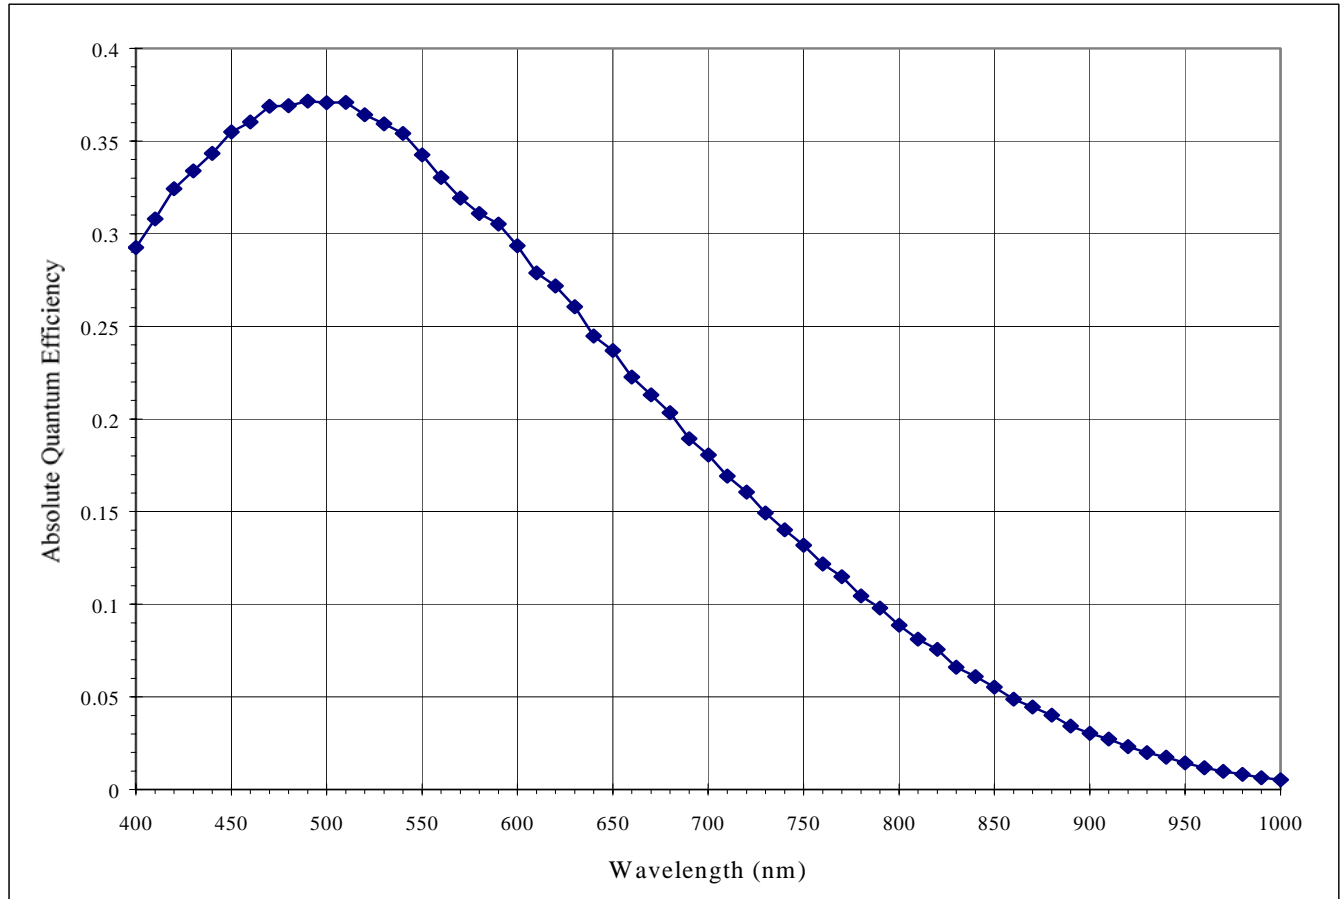

Figure 5: Nominal KAI-0330-ABA Spectral Response
2. Refer to typical values from Figure 5: Nominal KAI-0330-ABA Spectral Response.